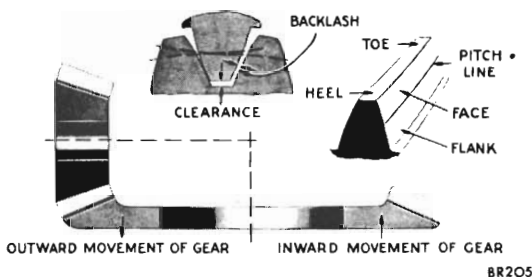

Fig. 32 - Gear tooth contact pattern
- (11) Remove the dial indicator.
- (12) Hold the bearing cups and the preload spacers on the bearing cones and carefully guide the differential assembly into position in the carrier.
- (13) Release the tension on the spreader tool.
- (14) Install bearing caps and tighten the bolts 35-45 lbs.-ft. torque.
- (15) Attach dial indicator to the carrier bringing the indicator parallel with the ring gear rotation and into contact with one tooth.
- (16) Determine the amount of backlash and mark this tooth.
- (17) To find the position of least backlash, take readings on three more teeth approximately 90 degrees apart.
- (18) Using the teeth with the minimum backlash, the dial indicator should read .005" - .007" If the reading is not within tolerance it will be necessary to refer to the "Differential Preload Spacer Selection Chart" and install different spacers.
- (19) Make a gear tooth pattern test using red lead and refer to the patterns in Figs. 32 and 33.
- (20) Install cover with a new gasket and tighten the bolts to 17-22 lbs.-ft. torque.
- (21) Install rear axle assembly as described in Para. 2.